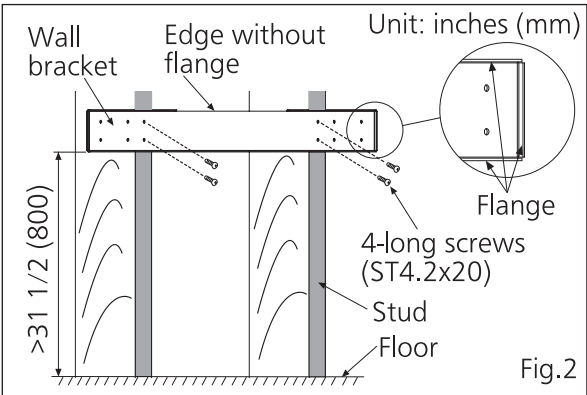

Fig.2
- 1.Mount wall bracket on stud with long screws (ST4.2x20). (Fig.2)
- (1)Attach with flanged edge facing outward and edge without flange facing upward when mounting wall bracket. (Fig.2)
- (2)Choose the mounting hole on wall bracket according to the distance between studs.